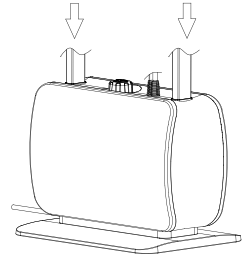

FIGURE 1
2. Insert the Telescopic Poles into the openings on the sides of the unit body as shown in Figure 1 making sure poles do not move.